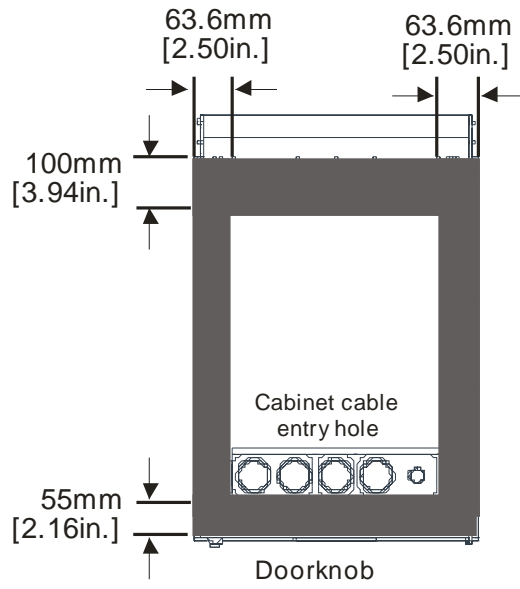

Figure 2-8 Elevated base fixing figure
5. If a customer needs to elevate the cabinet because of the venue, please refer to Figure 2-8 to elevate the four sides to ensure the safety of the cabinet.